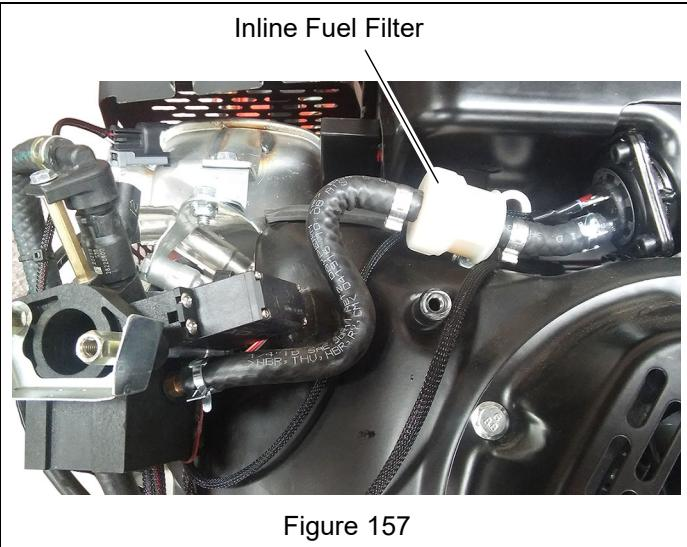

Figure 157
3. Check inline fuel filter for debris and blockage. See Figure 157.